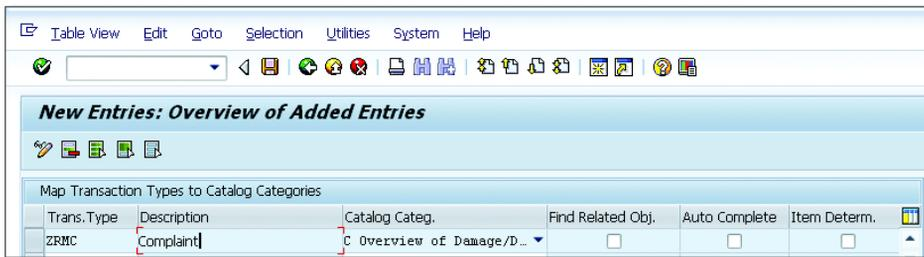

Figure 4.113 Assigning Transaction Types to Catalog Categories
1. Navigate to SPRO • CRM • CRM CROSS-APPLICATION COMPONENTS • MULTILEVEL CATEGORIZATION • ASSIGN TRANSACTION TYPES TO CATALOG CATEGORIES. On the NEW ENTRIES: OVERVIEW OF ADDED ENTRIES screen, you'll find the following fields (see Figure 4.113):